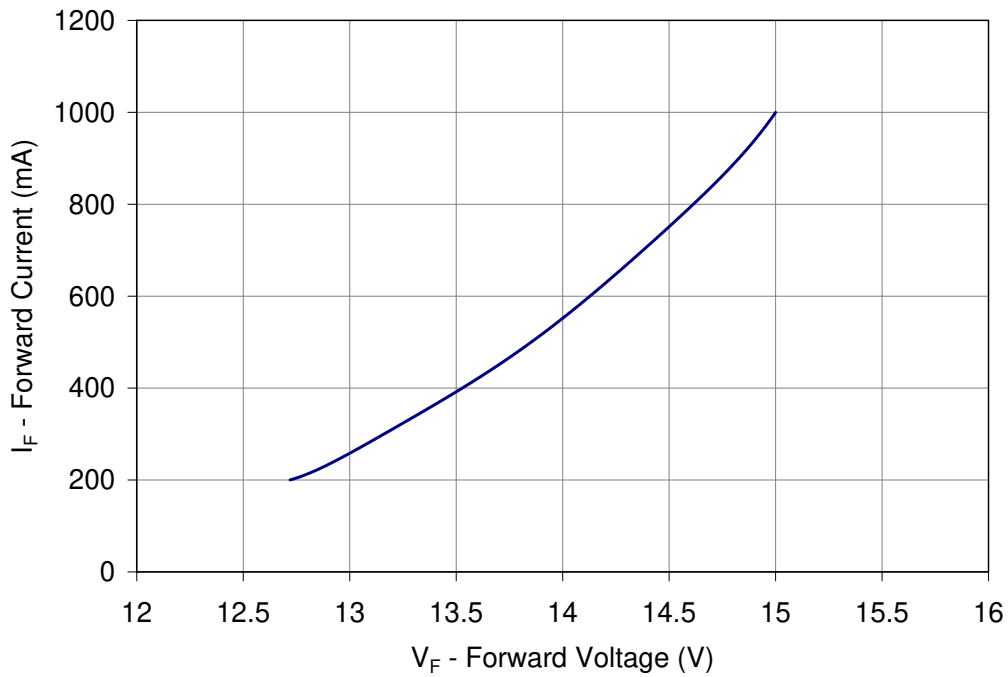

Figure 6: Typical forward current vs. forward voltage @  $T_c = 25^\circ\text{C}$ .
3. Refer to Figure 6 for typical dominant wavelength shift over forward current.
- Refer to Figure 6 for typical dominant wavelength shift over forward current.
Note for Figure 6: